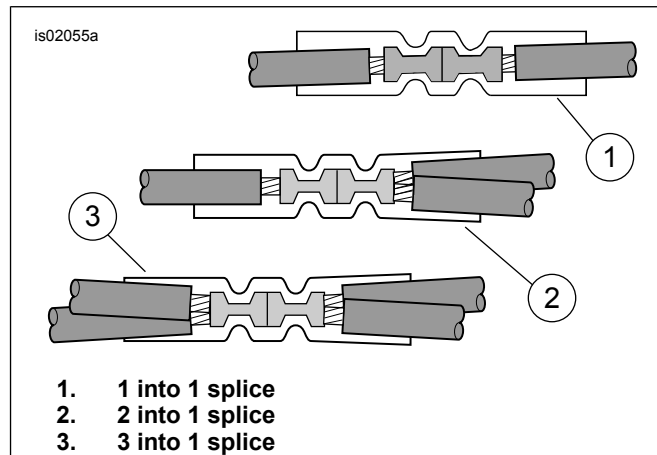
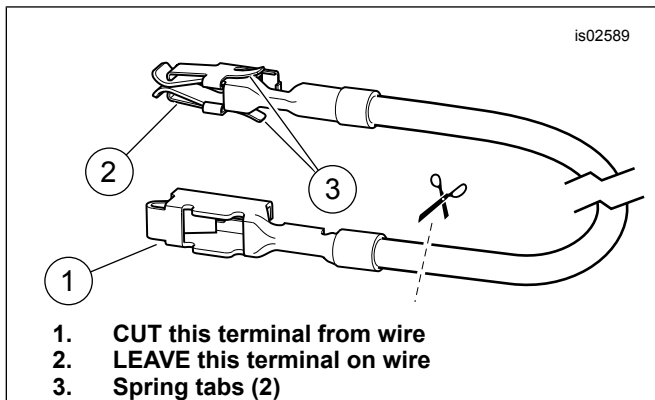
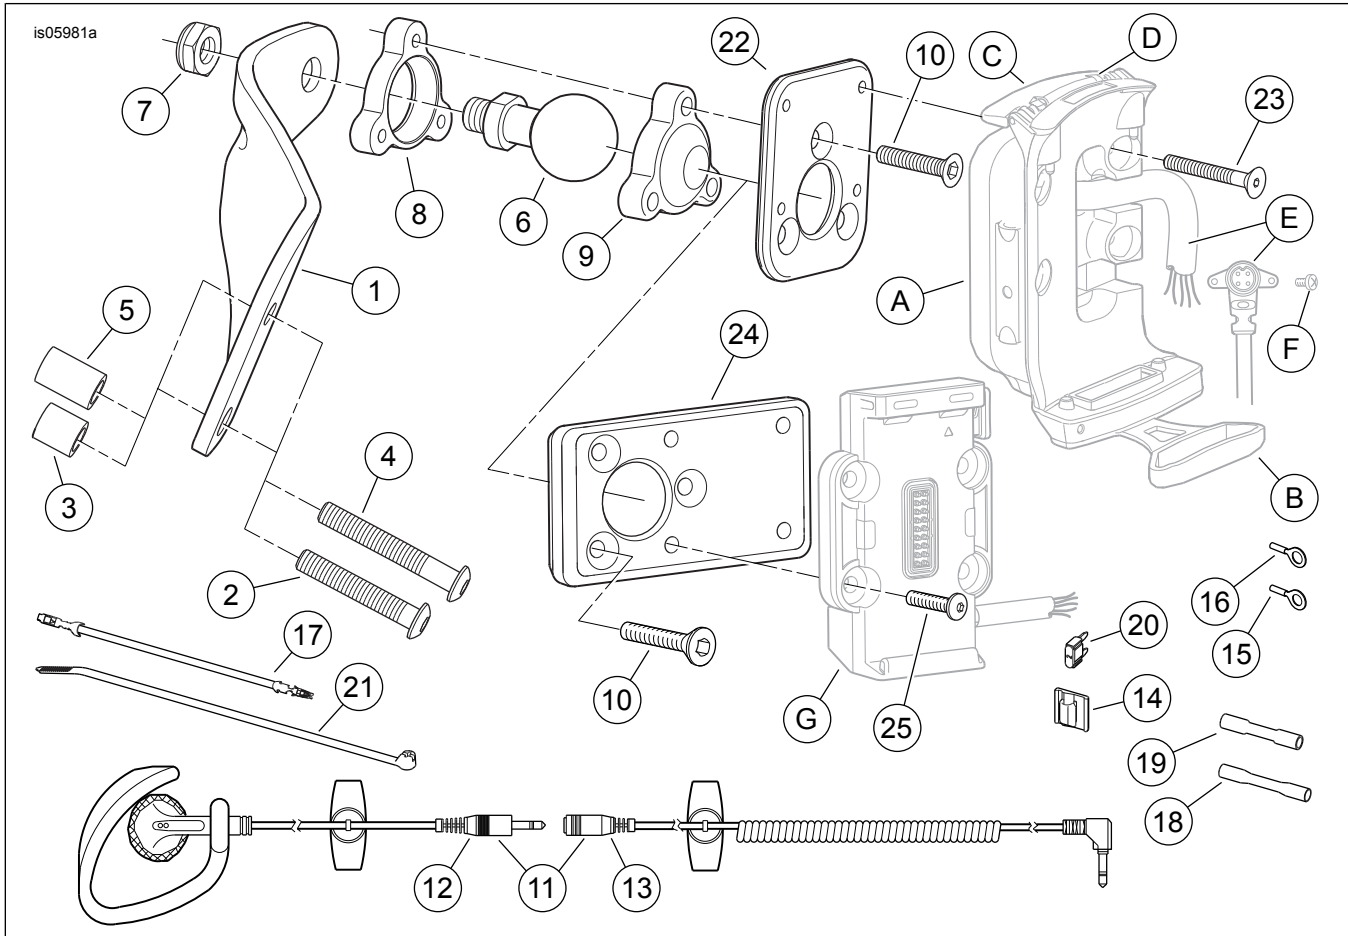

Figure 7. Splice Configurations
Figure 8. Fuse Block Adapter Wire (Dyna and Softail)
Figure 17. Service Parts, Road Tech Zumo 550 and Zumo 660 GPS Handlebar Mount Kits
4. See Figure 17. Obtain the blue sealed splice connector (19) from the kit. See Figure 7, the 2 into 1 splice configuration. Splice the Zumo wire harness power lead to the main harness orange/white wires per the instructions in the service manual appendix.
3. See Figure 17. Obtain the orange/white fuse block adapter wire (17) from the kit. Note the terminal on each end (see Figure 8). Only the terminal with the spring tabs will fit into this fuse block. Carefully cut the unused terminal from the wire and discard it.
6. See Figure 17. Obtain the blue sealed splice connector (17) from the kit. See Figure 7, the 1 into 1 splice configuration. Splice the Zumo wire harness power lead to the adapter wire per the instructions in the service manual appendix.
7. See Figure 17. Install the 2A fuse (20) from the kit into the "OPEN" fuse cavity to complete the circuit.
- See Figure 17. Obtain the blue sealed splice connector (19) from the kit. See Figure 7, the 2 into 1 splice configuration. Splice the Zumo wire harness power lead to the cut orange/white wires per the instructions in the service manual appendix.
- See Figure 17. Obtain the orange/white fuse block adapter wire (17) from the kit. Note the terminal on each end (see Figure 8). Only the terminal with the spring tabs will fit into this fuse block. Carefully cut the unused terminal from the wire and discard it.
- See Figure 17. Obtain the blue sealed splice connector (19) from the kit. See Figure 7, the 1 into 1 splice configuration. Splice the Zumo wire harness power lead to the adapter wire per the instructions in the service manual appendix.
- See Figure 17. Install the 2A fuse (20) from the kit into the "P&A IGN" fuse cavity to complete the circuit.
- See Figure 17. Obtain the blue sealed splice connector (19) from the kit. See Figure 7, the 2 into 1 splice configuration. Splice the Zumo wire harness power lead to the main harness orange/white wires per the instructions in the service manual appendix.
- See Figure 17. Cut the excess length from the orange/white Zumo harness wire. Using the blue sealed splice connector (19) from the kit, splice that wire to the adapter wire installed in Step 4.
- Install the 2A fuse (20) from the kit into the fuse cavity marked "P&A IGN", "2A MAX" to complete the circuit.
6. See Figure 17. Cut the excess length from the orange/white Zumo harness wire. Using the blue sealed splice connector (19) from the kit, splice that wire to the adapter wire installed in Step 4.
7. Install the 2A fuse (20) from the kit into fuse cavity 1A-1B (4) to complete the circuit.
3. See Figure 17. Obtain the blue sealed splice connector (19) from the kit. See Figure 6, the 2 into 1 splice configuration. Splice the Zumo wire harness power lead to the main harness orange/white wires per the instructions in the service manual appendix.
4. Install the 2A fuse (20) from the kit into the fuse cavity to complete the circuit.